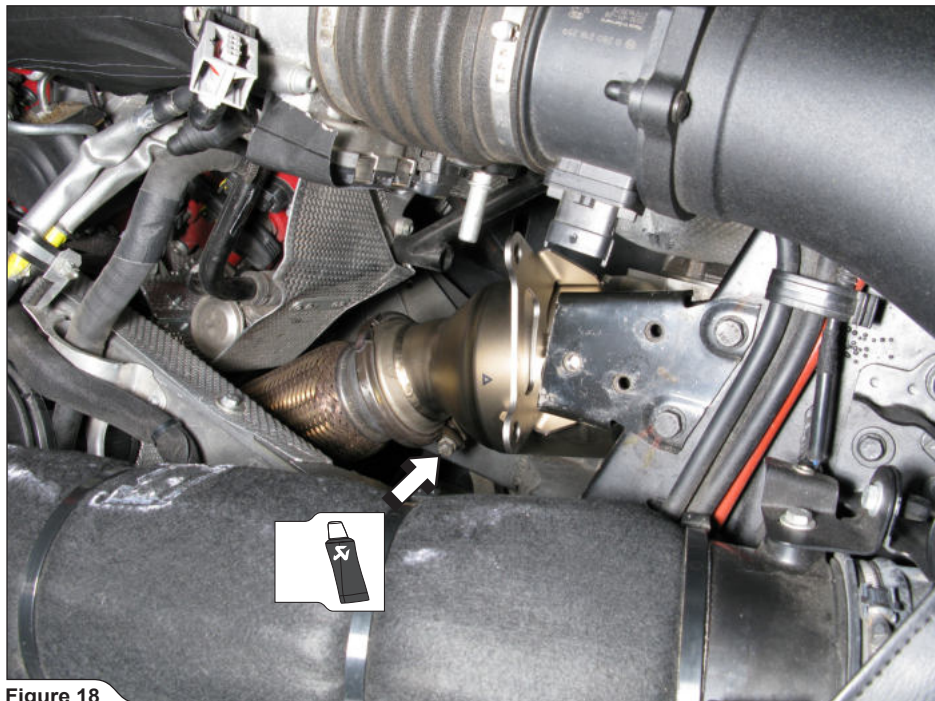

Figure 18
2. **For optional Link Pipes only:** attach the Link Pipes onto the headers and **hand** tighten the original spherical clamps on both sides of the engine (**Figure 18**).